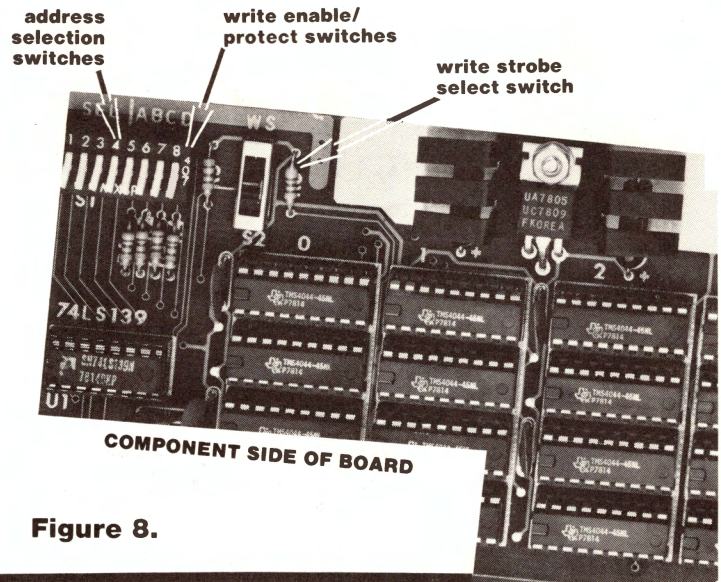

Figure 8.
- ☐ 3. Mount the slide switch in position as shown in figure 8 (note: orientation is not important).
☐ 5. Observe the 8 pole dip switch. The side with the number 1-8 faces the upper edge of the board (see figure 8). Mount the switch in place, and then solder. (Note: May be already soldered in place.)